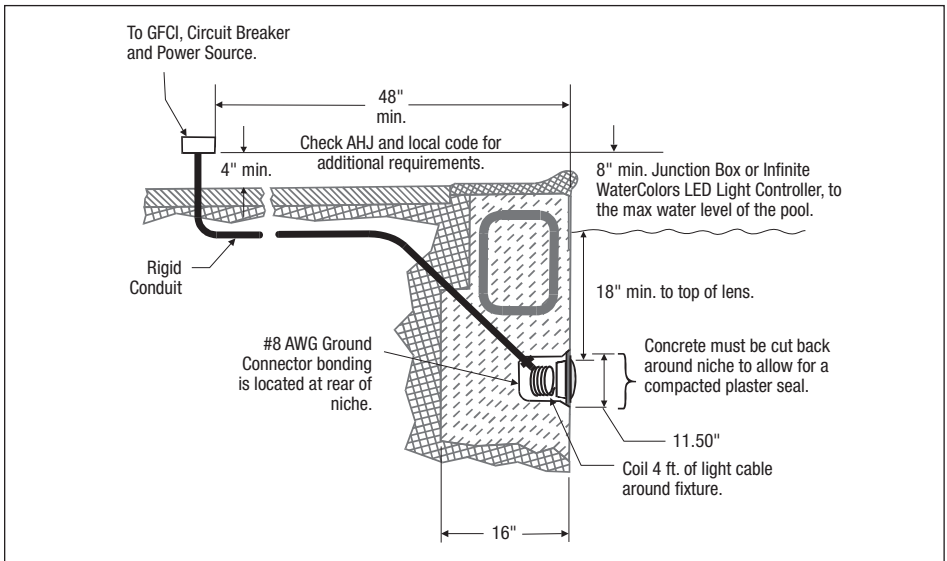

Figure 1. Jandy Infinite WaterColors Light Installation
NOTE: The electrician must complete preparatory steps before light fixture is installed. See *Figure 1*.
1. The junction box or Infinite WaterColors LED Light Controller suitable for direct conduit connection to lights must be located at least (8) inches above water level, at least four (4) inches above ground level, and at least (48) inches (4) feet from the edge of the pool, or as required by local code, see *Figure 1*.
2. The light fixture and all metal items within five (5) feet of the pool must be properly electrically bonded to a reliable point of grounding.
3. The wet niche must be properly installed so that the top edge of the underwater light's lens is at least (18) inches below the surface of the water in the pool. See *Figure 1*.
4. The wet niche must be properly electrically bonded and grounded via the No. 8 AWG ground connector located at the rear of the niche. See *Figure 1*.
1. Feed cord through conduit to junction box, leaving at least four (4) feet of cord at the light fixture to coil into the base of the light niche, see *Figure 1*. The four (4) feet of cord allows the light to be serviced after the pool is filled with water.
2. Cut the cord at the junction box, leaving at least six (6) inches of cord to make connections.
3. Strip six (6) inches of the outer cord jacket to expose the three insulated wires. *Be careful not to damage the insulation on the three (3) inner wires.*
- The junction box or Infinite WaterColors LED Light Controller suitable for direct conduit connection to lights must be located at least (8) inches above water level, at least four (4) inches above ground level, and at least (48) inches (4) feet from the edge of the pool, or as required by local code. *Figure 1.*
- The light fixture and all metal items within five (5) feet of the pool must be properly electrically bonded to a reliable point of grounding.
- The wet niche must be properly installed so that the top edge of the underwater light's lens is at least (18) inches below the surface of the water in the pool. See *Figure 1.*
- The wet niche must be properly electrically bonded and grounded via the No. 8 AWG ground connector located at the rear of the niche. See *Figure 1.*
5. Leave at least four (4) feet of cord to coil around the light fixture or coiled into the base of the light niche, see *Figure 1*. This allows the light to be serviced after the pool is filled with water.
6. Cut the cord at the Junction Box, leaving at least six (6) inches of cord to make connections.
7. Strip six (6) inches of the outer cord jacket from the cord to expose the three insulated wires. *Be careful not to damage the insulation on the three (3) inner wires.*